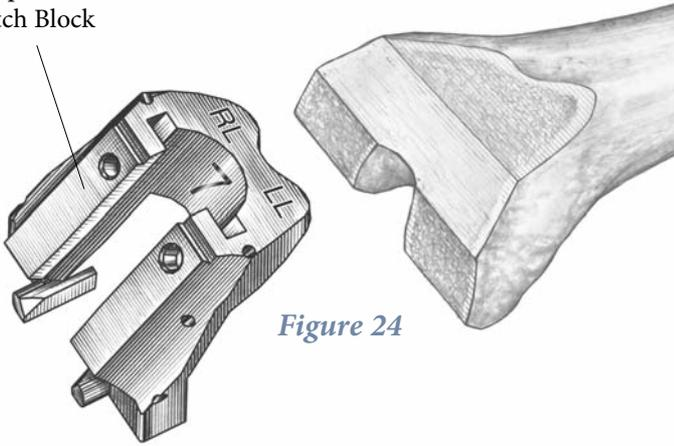

Figure 24
- ▶ Position the Notch Block on the prepared distal femur, (Figure 24). To further aid the positioning, note that the block is also the same width as the implant of its respective size.